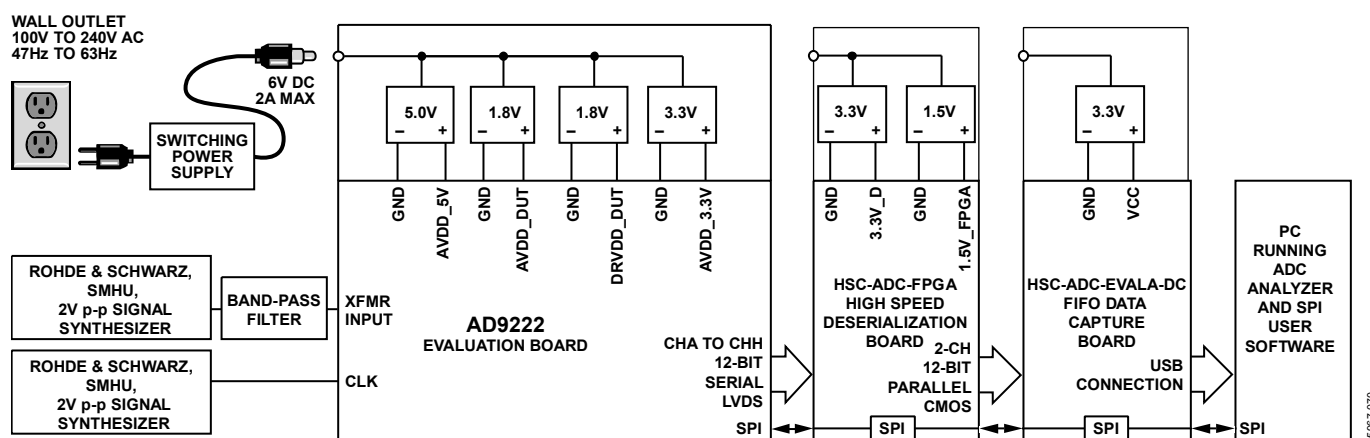
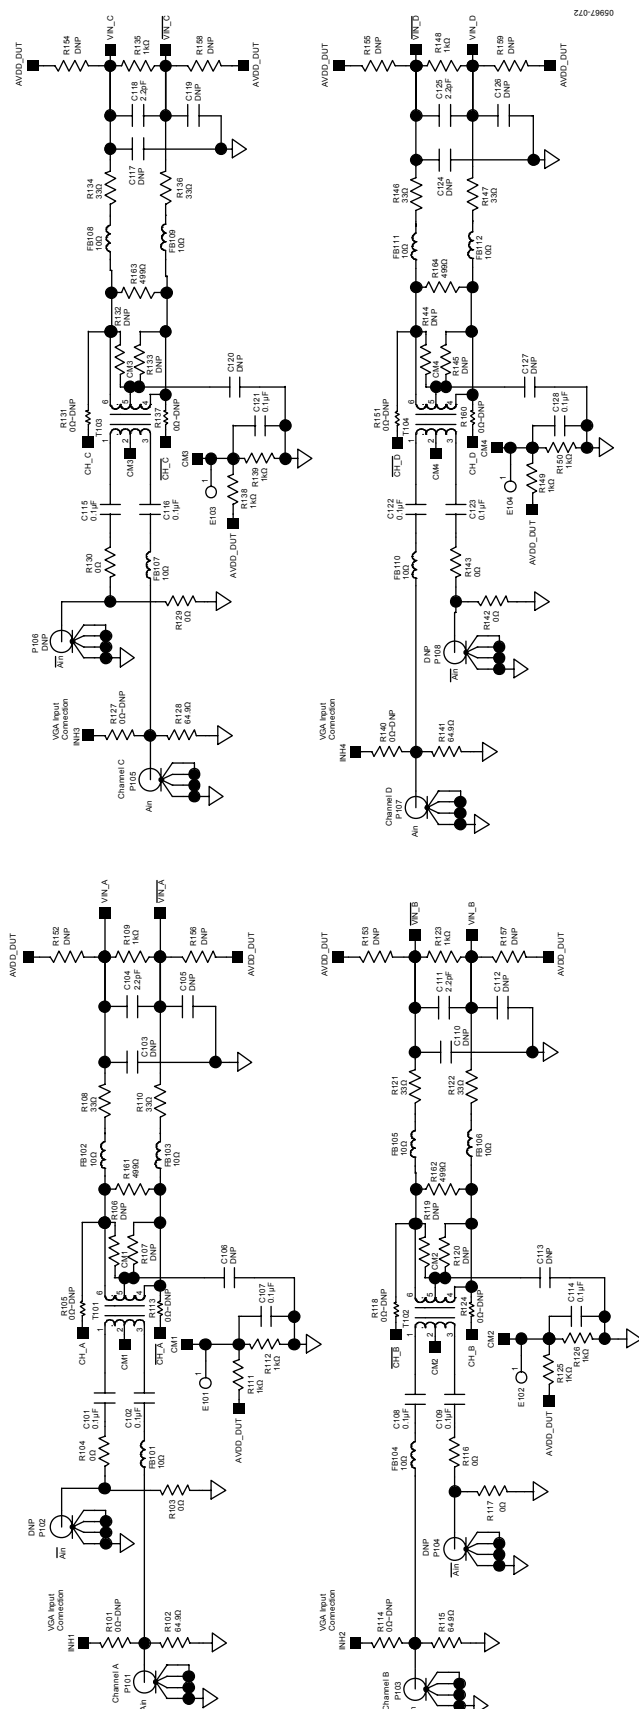

Figure 65. Evaluation Board Connection
Figure 67. Evaluation Board Schematic, DUT Analog Inputs
The AD9222 evaluation board provides all of the support circuitry required to operate the ADC in its various modes and configurations. The converter can be driven differentially through a transformer (default) or through the AD8334 driver. The ADC can also be driven in a single-ended fashion. Separate power pins are provided to isolate the DUT from the AD8334 drive circuitry. Each input configuration can be selected by proper connection of various jumpers (see Figure 67 to Figure 71). Figure 65 shows the typical bench characterization setup used to evaluate the ac performance of the AD9222. It is critical that the signal sources used for the analog input and clock have very low phase noise (<1 ps rms jitter) to realize the optimum performance of the converter. Proper filtering of the analog input signal to remove harmonics and lower the integrated or broadband noise at the input is also necessary to achieve the specified noise performance.
See Figure 67 to Figure 77 for the complete schematics and layout diagrams that demonstrate the routing and grounding techniques that should be applied at the system level.
- **D+, D-:** If an alternative data capture method to the setup described in Figure 67 is used, optional receiver terminations, R318, R320 to R328, can be installed next to the high speed backplane connector.